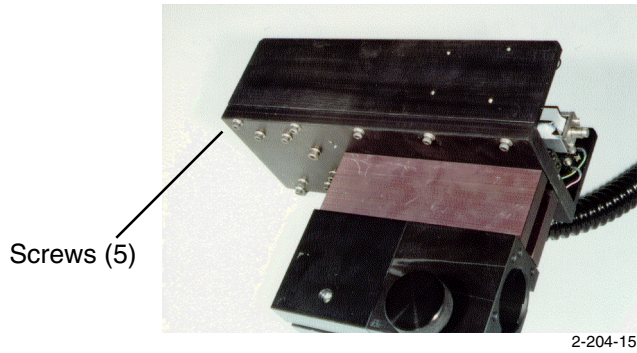
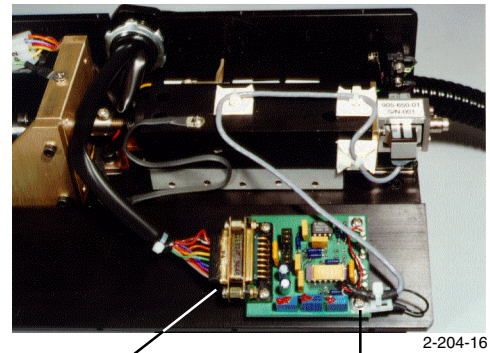
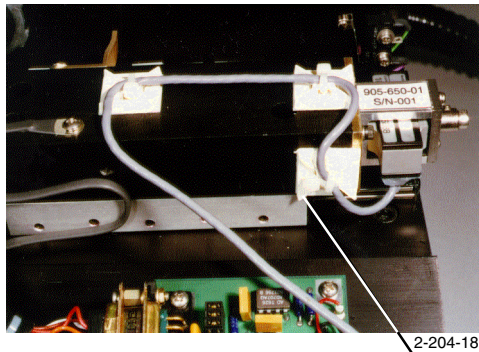
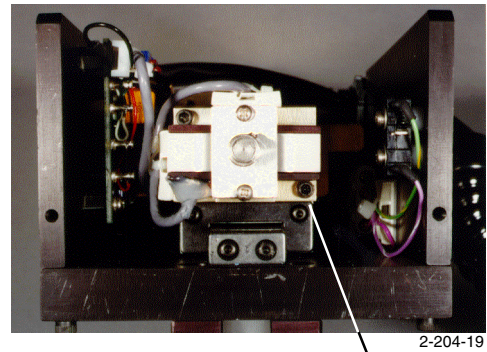

Figure 2.5
Figure 2.6
Figure 2.7
Figure 2.8
To remove the transducer assembly from the precision drive mechanism, remove the cover from this assembly as described in Appendix B, step 1. Remove the five (5) screws holding the left side plate to the back plate of the precision drive mechanism (Figure 2.5). Loosen the two (2) screws securing the harness connector to the force transducer CCA, then disconnect this connector (Figure 2.6). Remove the four (4) screws securing the force transducer CCA to the side plate (Figure 2.6). Carefully cut the tie wraps securing the force transducer assembly interconnect cable to the platform tie downs (Figure 2.7). Support the force transducer and remove the two (2) mounting screws (Figure 2.8). Carefully remove the transducer assembly. Bubble wrap and protect the force transducer/tip. Place the transducer assembly in an antistatic bag for ESD protection.
Install the new transducer on the precision drive mechanism in the reverse order of removal above. Be sure to secure the transducer interconnect cable to the tie downs, with tie wraps, as shown in Figure 2.7. The critical tie down area is the first tie down nearest the transducer. The cable must be secured to this tie down using two (2) tie wraps, 90° to each other, and tightened securely. The cable should not be able to be slide through this tie down if pulled with moderate force. The cable from the transducer to this tie down also cannot drag or come in contact with any surface during platform movement, or the system will not operate properly.